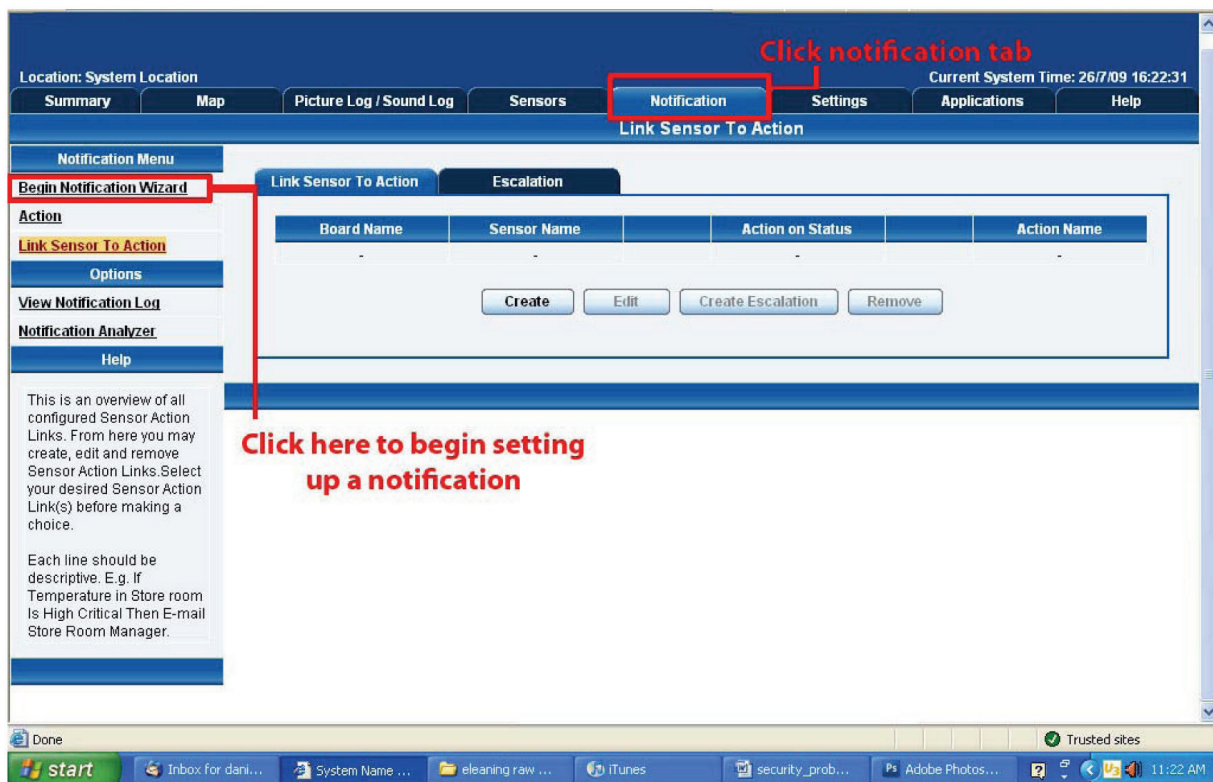

Figure 4-1. Notification Wizard tab.
3. Click the "Notification Wizard." Figure 4-1 appears.